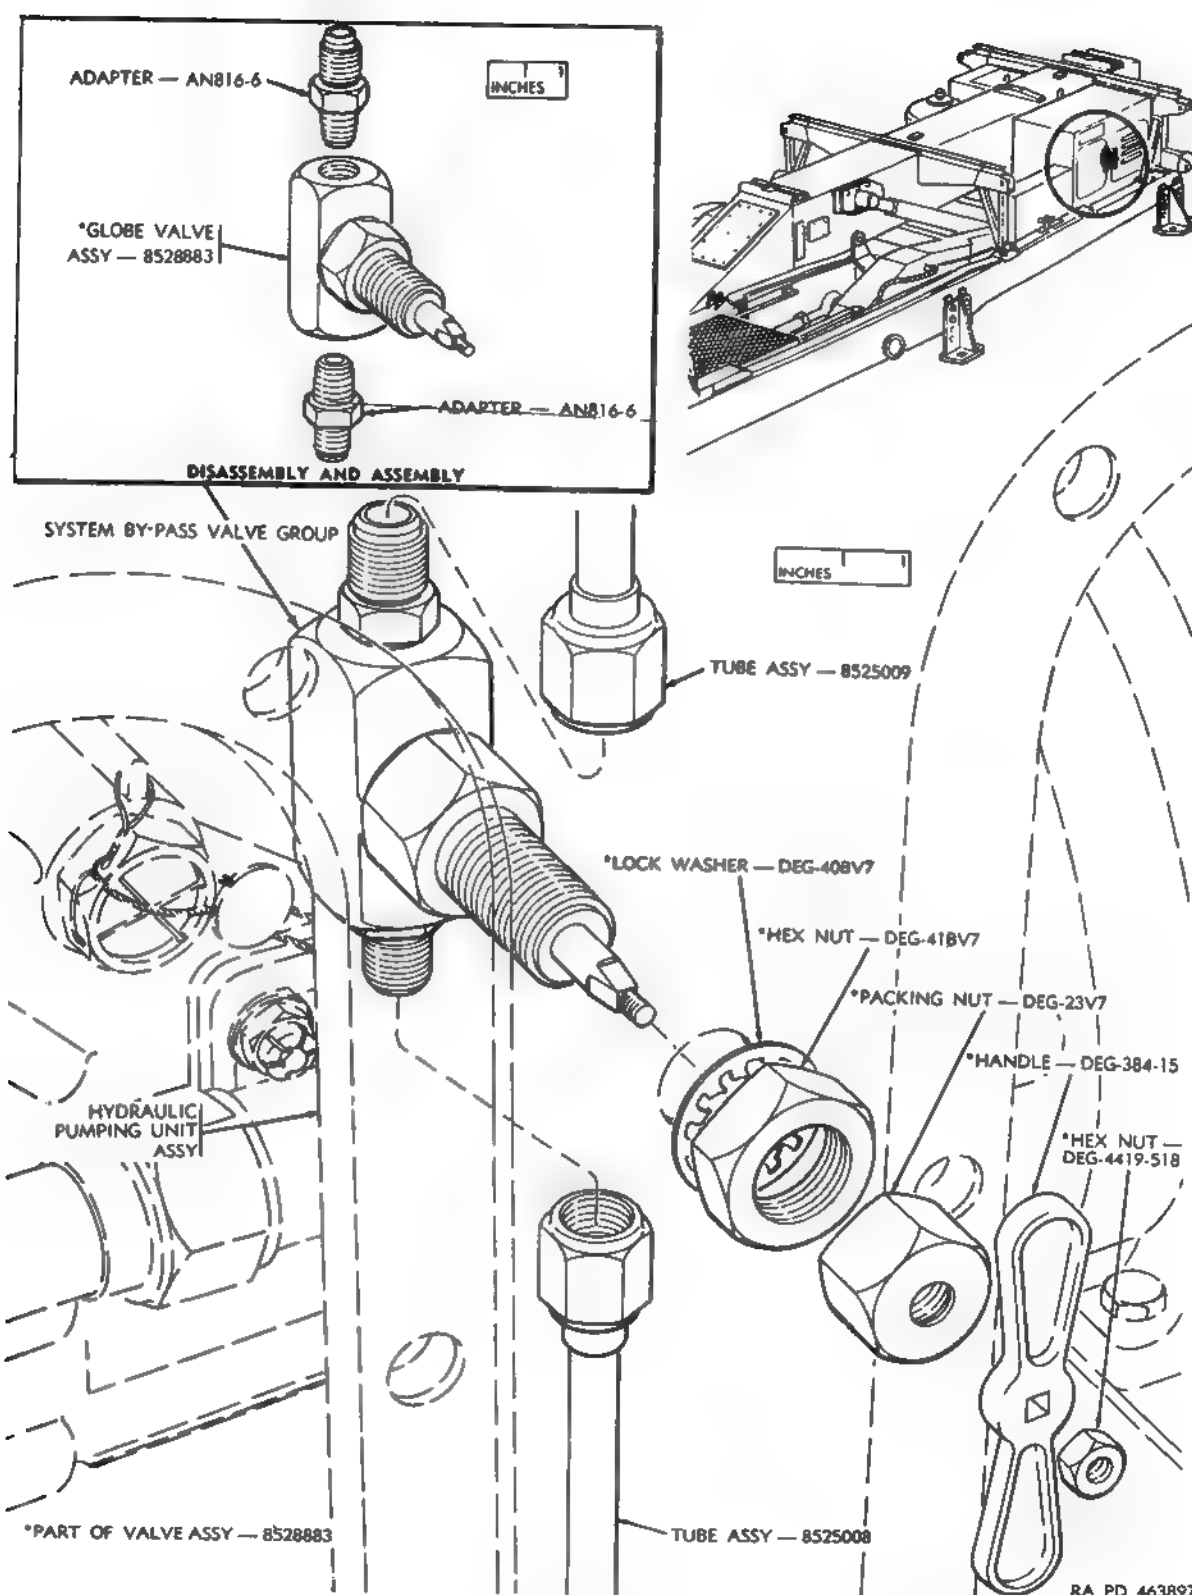
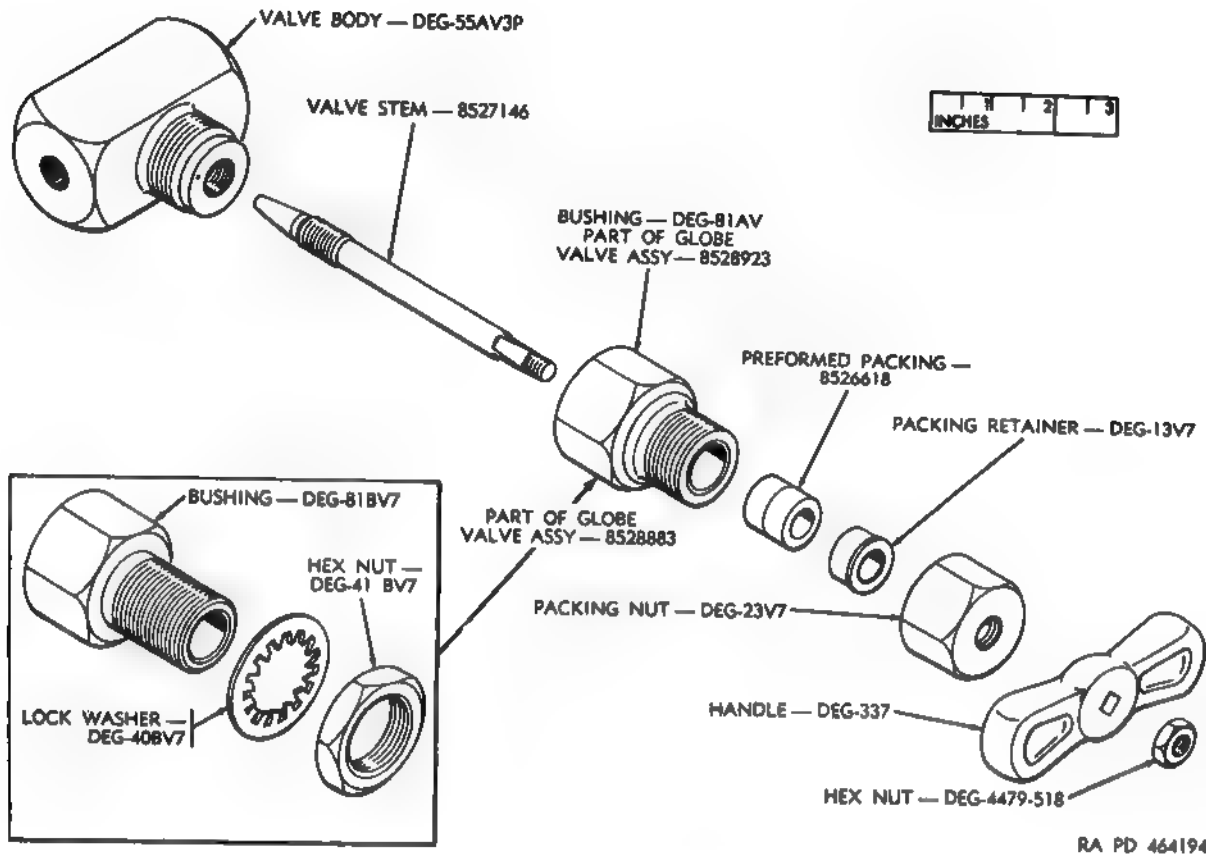

Figure 146. SYSTEM BY-PASS valve group — removal and installation.
Figure 147. Globe valve assembly — disassembly and assembly — typical.
- (d) Disconnect two tube assemblies (fig. 146) attached to valve group.
- (2) *Disassembly.*
- (b) Disassemble globe valve assembly (fig. 147).
- (3) *Assembly.*
- (b) Assemble SYSTEM BY-PASS valve group (fig. 146).
- (4) *Installation.*
- (5) *Inspection and test.*
- (a) Check the hydraulic connections for fluid leakage; if there are any leaks, remove attaching tube assembly (fig. 146) as described in *w*(1) below.
- (c) Replace all defective parts and install tube assembly as described in *w*(2) below.